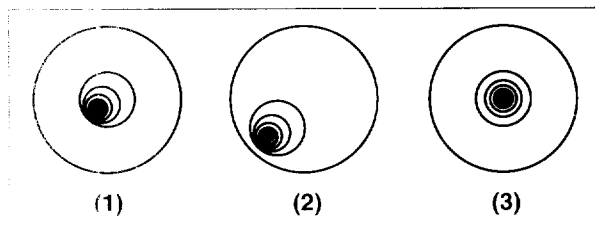

Fig. 22: Defocused star images.
- b. While looking at the defocused star image, notice which direction the darker shadow is offset in the ring of light or notice which part of the ring is the thinnest (1, Fig. 22). Place your index finger in front of the telescope so that it touches one of the collimation set screws. You will see the shadow of your finger in the ring of light. Move your finger around the edge of the black plastic secondary mirror support until you see the shadow of the finger crossing the thinnest part of the ring of light. At this point, look at the front of the telescope where your finger is aiming. It will either be pointing directly at a set screw, or it will be between two set screws aiming at the set screw on the far side of the black plastic secondary mirror support. This is the set screw that you will adjust.
- c. Using the slow-motion controls, move the defocused image to the edge of the eyepiece field of view (2, Fig. 22), in the same direction as the darker shadow is offset in the ring of light.
- f. When you bring the image to center (3, Fig. 22), carefully examine the evenness of the ring of light (concentricity). If you find that the dark center is still off in the same direction, continue to make the adjustment in the original turning direction. If it is now off in the opposite direction, you have turned too far and you need to turn in the opposite direction. Always double check the image in the center of the field of the eyepiece.